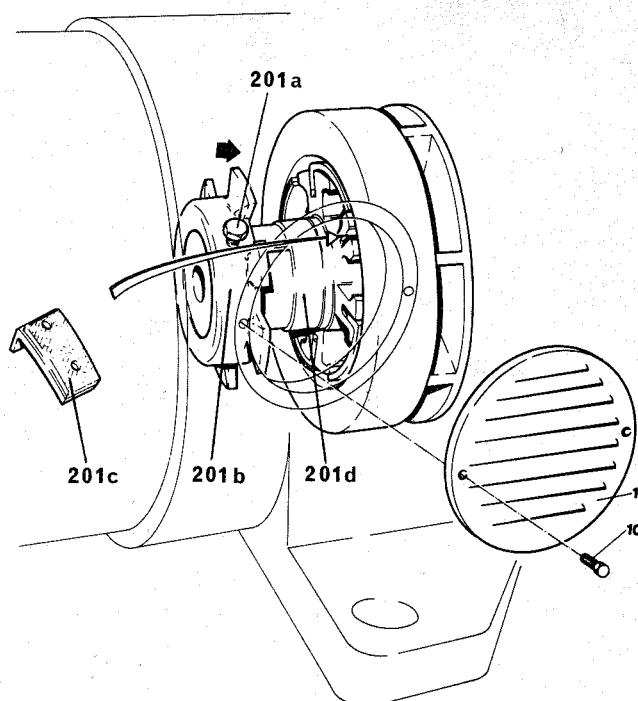

Fig. 8/12
- 5) In case the clutch emits disturbing noises during the acceleration period, apply a very thin coat of molybdenum disulfide paste to the lips "a" of the clutch shoes (see fig. 8/11). If too much paste is applied, there is the chance that some might be thrown by centrifugal force on the friction surfaces, leading to clutch slippage.